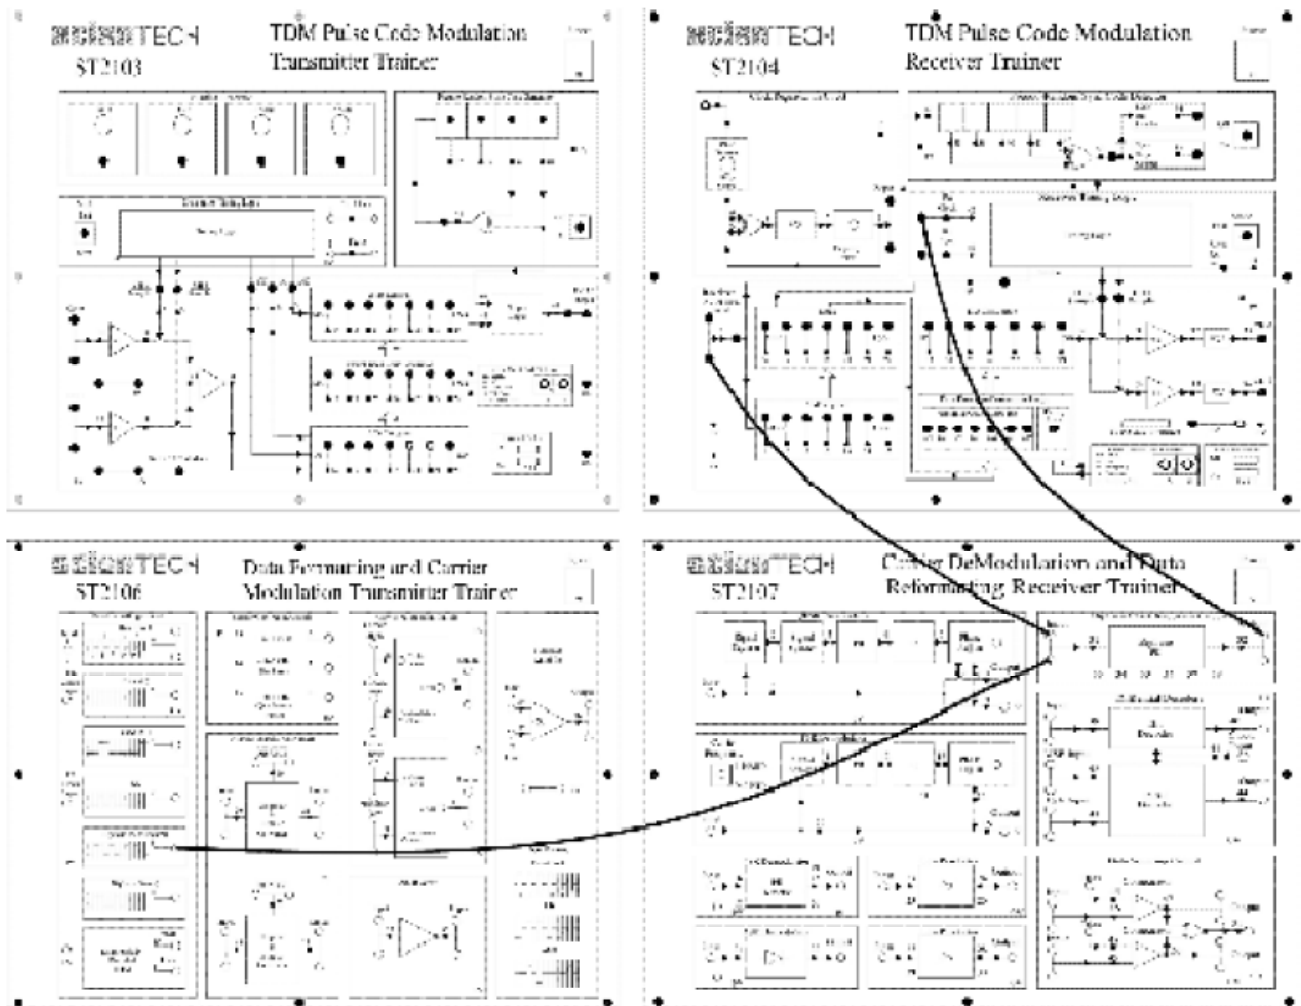

Figure 2
4. Make the following additional connections. (see figure 2) Biphas (Manchester) output (TP8) on **ST2106** to biphas clock recovery circuit input (TP31) on **ST2107**.
7. Biphas clock recovery circuit output (TP32) on **ST2107** to 'RX clock input (TP46) on **ST2104** see figure 2.